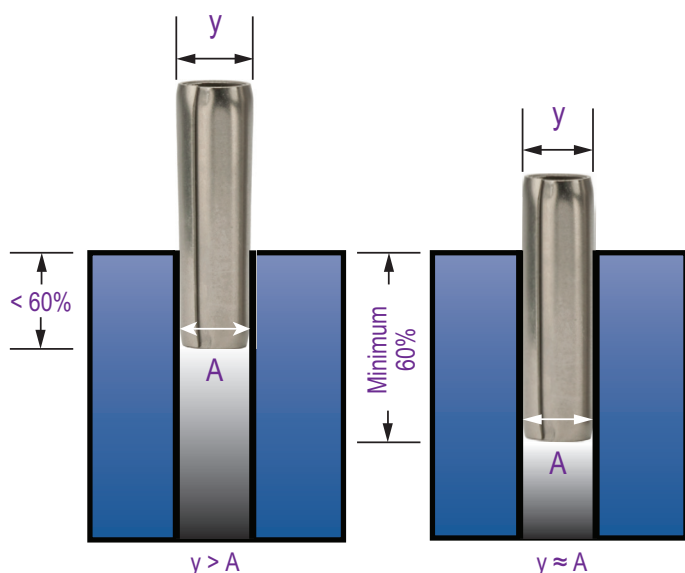

Figure 1: This diagram demonstrates proper installation depth. When a coiled pin is installed less than 60% of its overall length two conditions may occur:
2. The engagement length of the coiled pin in the component providing primary retention must be no less than 60% of the pin's overall length. The remaining protruding length will align with the mating component. Increasing the initial length of engagement is recommended in thru-hole applications; however, the coiled pin still has to protrude in order to align the mating component (Figure 1).